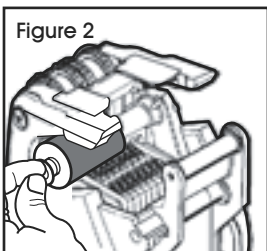

Figure 2
3. Hold the new ink roller by the stem. (See Figure 2)
4. Slide it onto the post, snapping it into place. (See Figure 2)